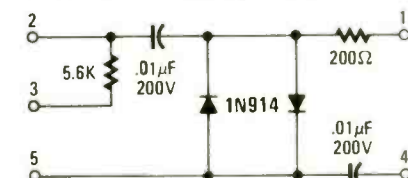

FIG. 2—INTERFACE DEVICE provides matching and isolation between phone and recorder.
The heart of the Telecorder is the interface module (Fig. 2). This module is the element that interfaces the phone line with the recorder. When it is connected to the red and green wires of the telephone, it senses the voltage across these two wires and produces a switching signal that energizes a relay connected across terminals 3 and 5. A relay switching signal is produced every time the telephone receiver is lifted off the hook.
- Interface module (see Fig. 2)
While the layout of the circuit is not critical, it is important that the audio input lead to the tape recorder be shielded to prevent 60-Hz hum from being picked up. A two-conductor shielded cable is recommended, with the shield connected to ground at the PC board. Connections to plugs PL2 and PL3 are not critical in that any wire can be connected to the tip or the body of the plug. The interface module can be built by following the schematic diagram in Fig. 2 and using discrete components.
Another possible design is the push-pull configuration that can also provide a stepped-up and stepped-down or inverted output (see Fig. 2). With this design, multiple outputs are possible—just by adding taps to the secondary winding or by using multiple secondary windings. Each winding needs its own diodes and filter capacitors. The push-pull converter doubles the ripple-current frequency to the output filter, reducing output-voltage ripple. The transformer can be made small since it excites the core alternately in both directions. One problem is that core saturation can occur since push-pull converter transformers are subject to DC imbalance.
FIG. 2—PUSH-PULL SWITCHING REGULATOR uses diodes to direct current flow. When Q1 is saturated, diode D1 conducts. When Q1 is off, both diodes conduct. When Q2 is saturated, diode D1 conducts.